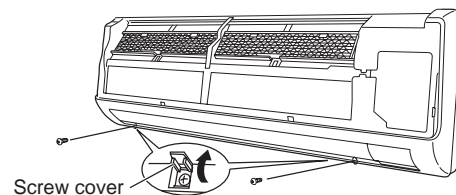
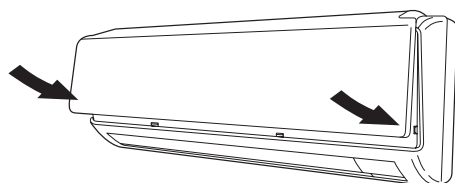

Fig. 9b
Fig. 12a
- (2) Remove the 2 screws. (Fig. 9b)
- (5) Affix the grille with the 2 previously removed screws. (Fig. 9b)
- (6) Install the air intake grille.
- (a) Allow the edge of the air intake grille to slide into the top of the indoor unit, and then insert it all the way inside. (Fig. 12a)